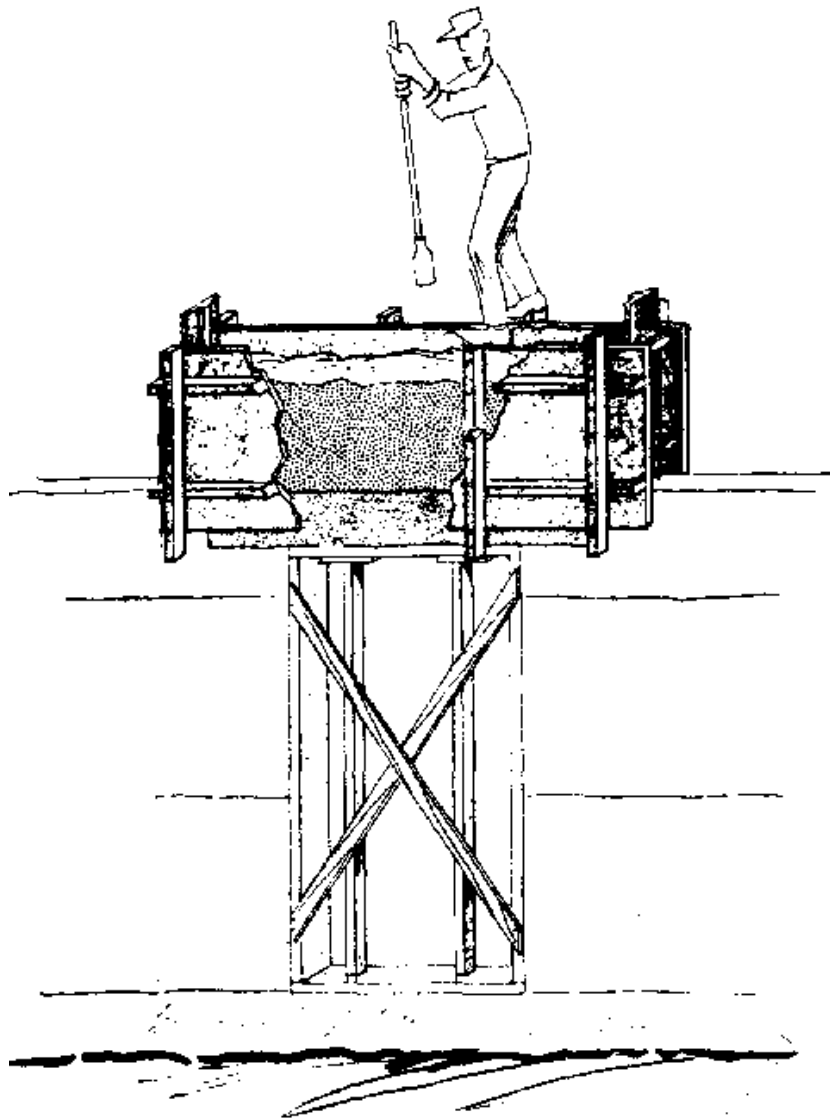

Figure 84.
*LINTELS AND TIE BEAMS* - Lintels and tie beams are constructed in the same way as for pressed blocks. There is one precaution to be noted, however. The pressures from ramming the earth on top of a lintel may be great enough to cause it to break or permanently sag. To keep this from happening, put sturdy braces beneath the lintel during ramming as shown in Figure 84, or design the building so that there is no earth wall over the door and window openings. This method is often preferred.